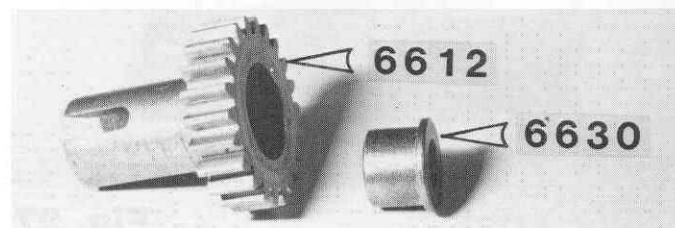

Fig. 36
□ **Fig. 36** Associated makes a complete ball bearing package for the RC10, part #6900. We'll show you how to install the bushings, which come with the kit, and the ball bearings. They're both installed in almost the same manner. If you are using bushings then wipe off the bushings and install them into the 2 #6612 axle drive gears. They are a snug fit so it will be necessary to tap them in with a soft blunt object such as a wood dowel. Make sure they are seated all the way in so that the snap ring groove in the gear is exposed.